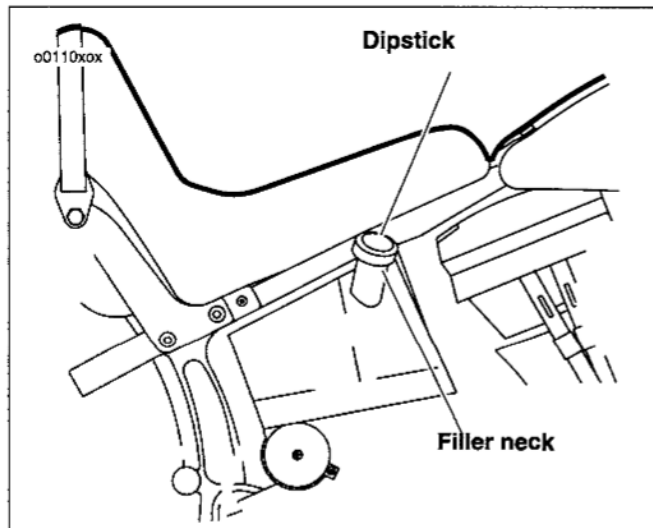

Figure 39. Dipstick Location
1. See Figure 39. To remove dipstick/oil plug, pull steadily on the plug while moving it back and forth.